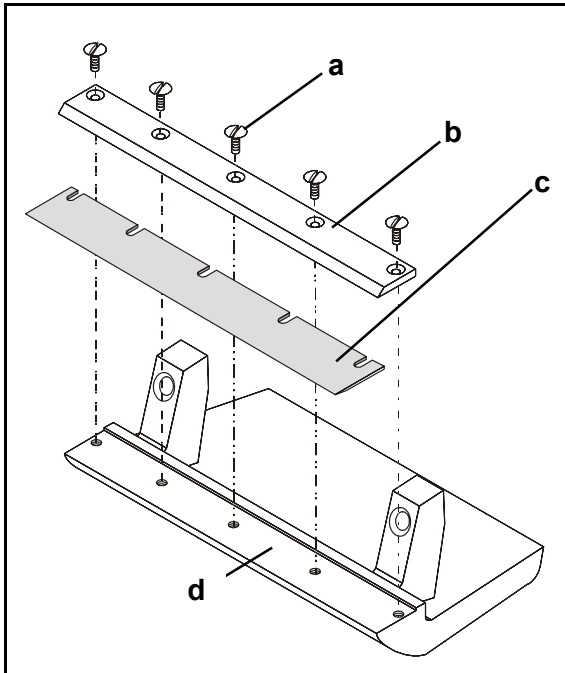

Fig. 18: Replacing the scraper knife
- Loosen and remove the fastening screws (Fig. 18/a).
- Remove the pressure plate (Fig. 18/b).
- Remove the scraper knife to be replaced (Fig. 18/c).
- Clean the scraper socket (Fig. 18/d) and the pressure plate (Fig. 18/b).
- Refit the pressure plate (Fig. 18/b).
- Slightly tighten the fastening screws (Fig. 18/a) (make sure that the knife can still be moved by hand).